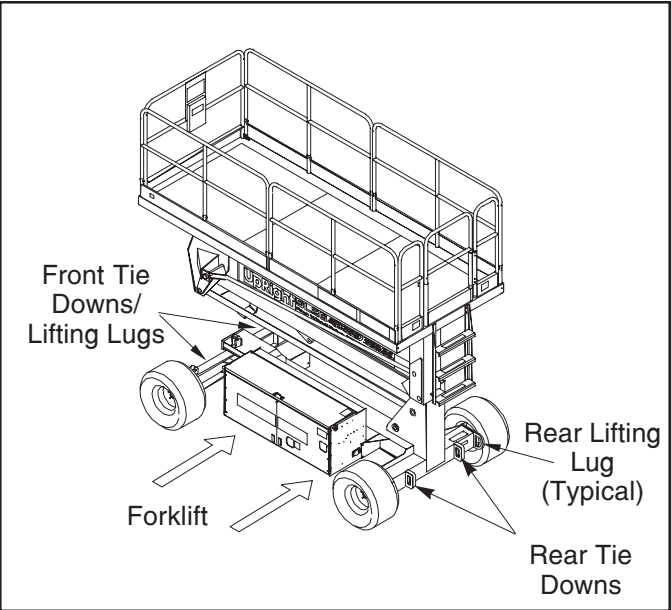

Figure 5: Transporting Work Platform
Forklift from side of Chassis by lifting under the Chassis Modules (Figure 5).
- Secure straps to Lifting Lugs only (Figure 5).
- Secure the work platform to the transport vehicle with chains or straps of adequate load capacity attached to the chassis tie down lugs (Figure 5).